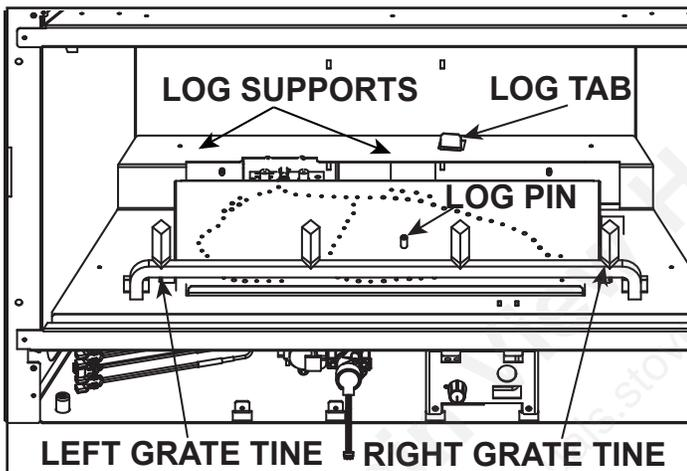

Figure 1.
**CAUTION: Logs are fragile, handle with care. Log #1 (SRV2206-701):** Bend the log tab into the upright position as shown in Figure 1. Position Log #1 as shown in Figure 2. The left end of the log should rest on the log support. Mate the right end of the log with the right grate tine. Rotate log clockwise, until the right end of the log engages the right grate tine, and the left end of the log touches the log tab shown in Figure 1.